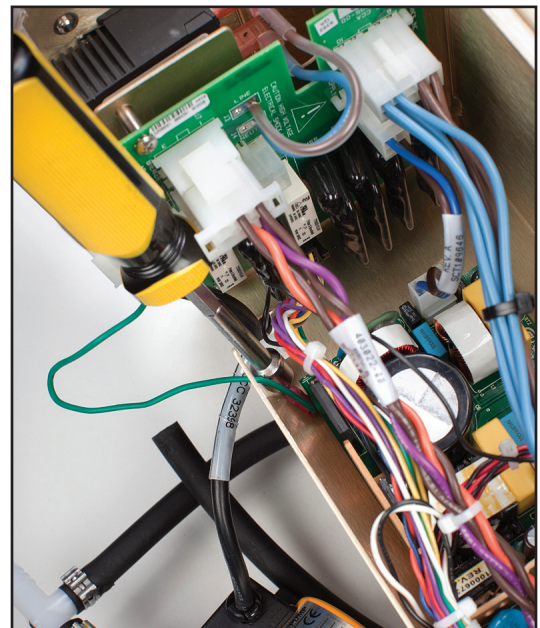

Fig. 8-40 Ground connection to be removed; location of nut is indicated (Step 3)
3. Using the 5/16" nut driver, remove the ground connection by unscrewing and removing the nut shown in Figure 8-40.